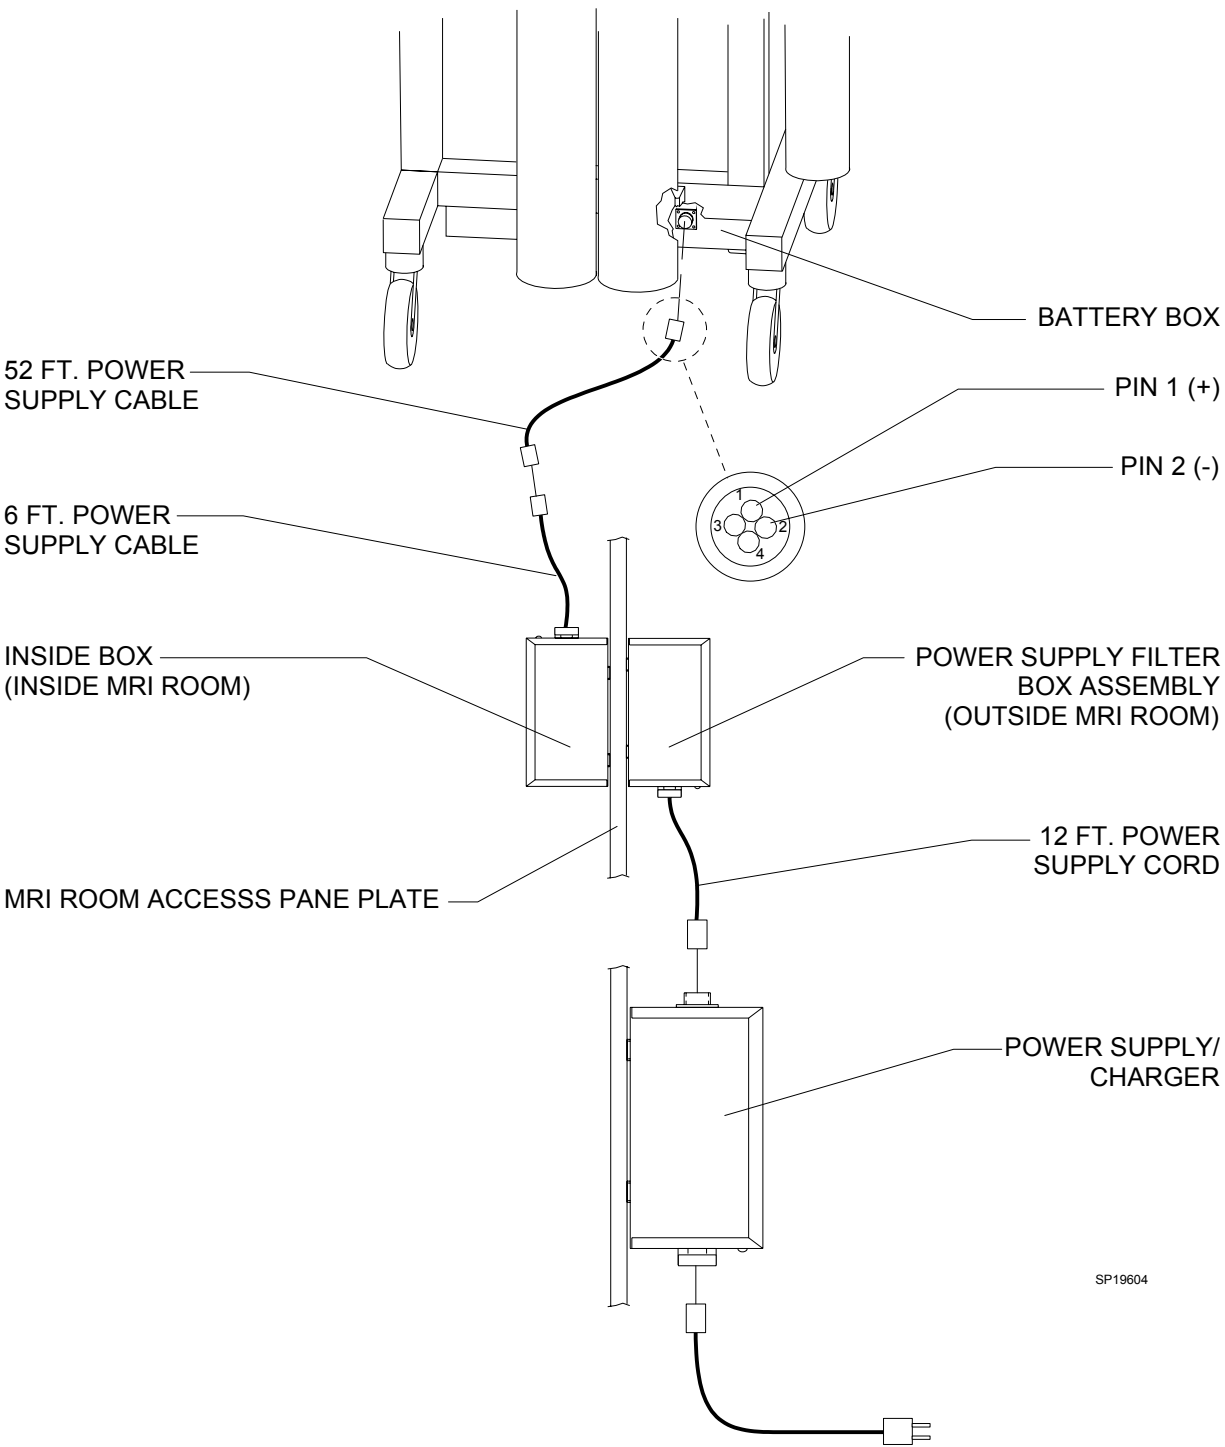

FIGURE 4. Electrical Connections
5. Connect the cable from the inside box of the power supply filter to the end of the 52 ft cable (see Figure 4).